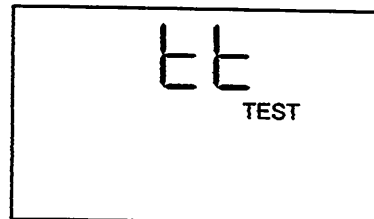

Figure 24. Test Tone Display Screen
3. Press the **TEST OPTIONS button** two times to activate the Test Tone display screen. It should look like Figure 24.
4. Press the **TEST OPTIONS** button two times to activate the Test Tone display screen. It should look like Figure 24 on page 34.